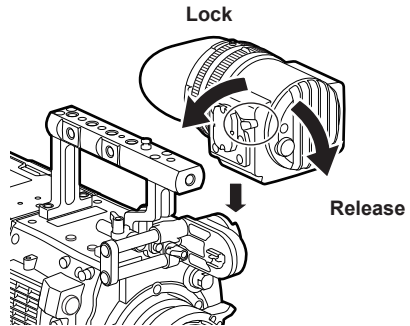

Fig. 2
- 2** Slide the viewfinder plate from above into the slider unit. (Fig. 2)